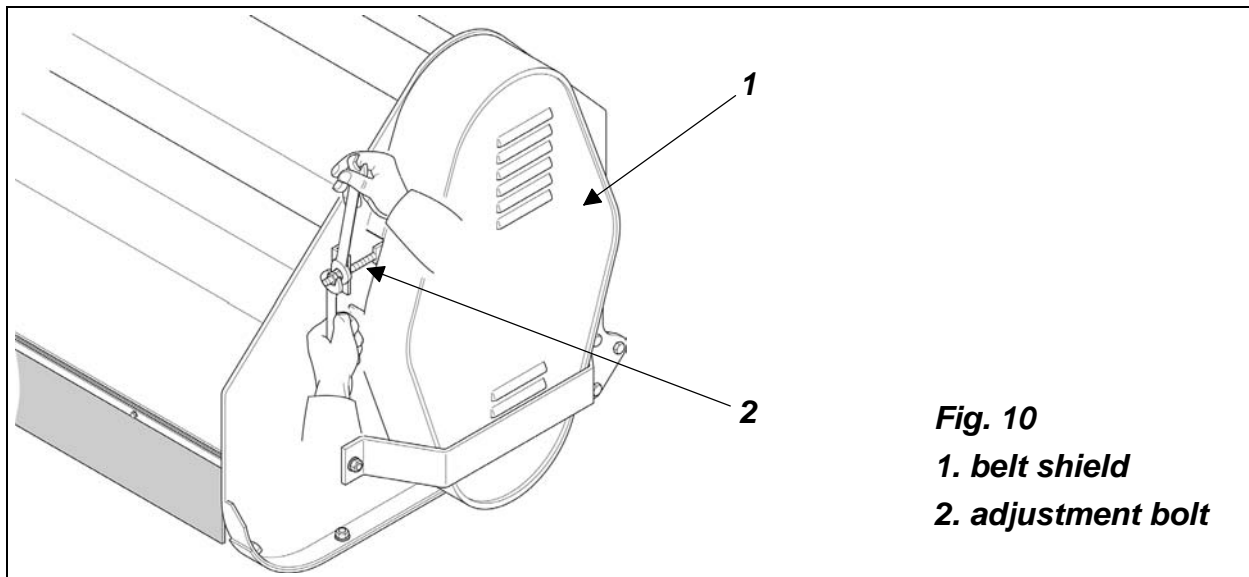

Fig. 10
To adjust the tension do the following (**see fig. 10**):
2. Remove the bolt adjustment rod (**see #2, fig. 10**).
1. Disengage the belt tensioner pulley by releasing the adjustment bolt (see #2, fig. 10)¹⁵.
1. Disengage the belt tensioner pulley by releasing the adjustment bolt (see #2, fig. 10)¹⁷.